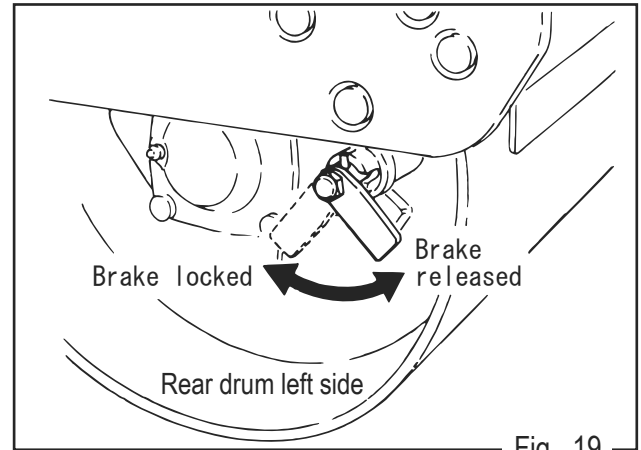

Fig. 19
- Before starting to travel, be sure to disengage parking brake system. When the lever is tight, moving the roller back and forth will make it easier. (Fig.19)
- Lock the parking brake by pulling the brake knob and rotating it 90 degrees counter clockwise. (Fig. 19)